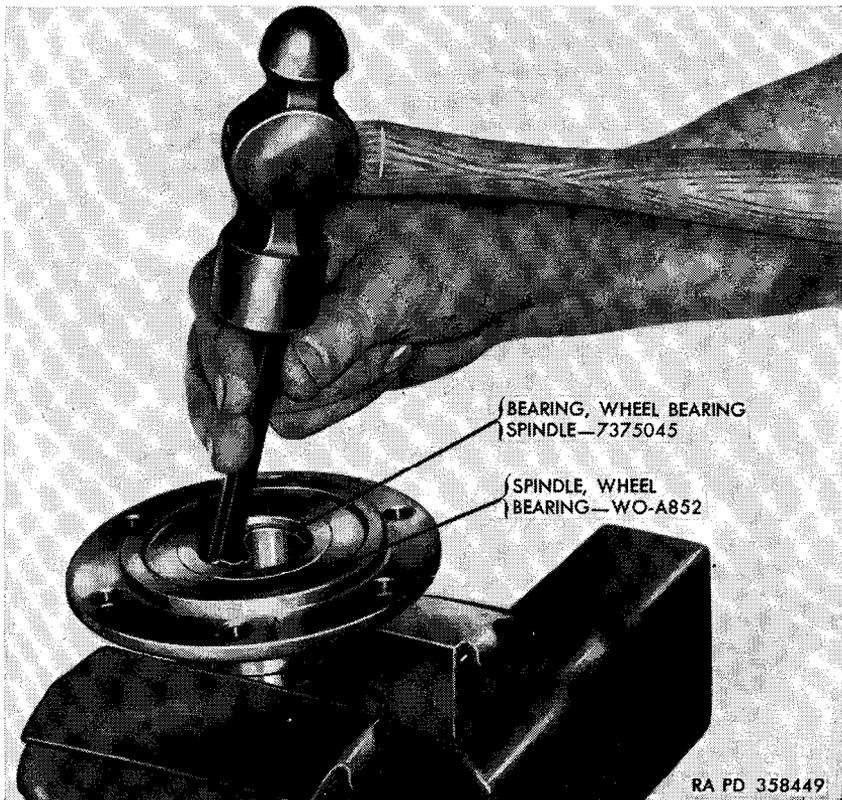
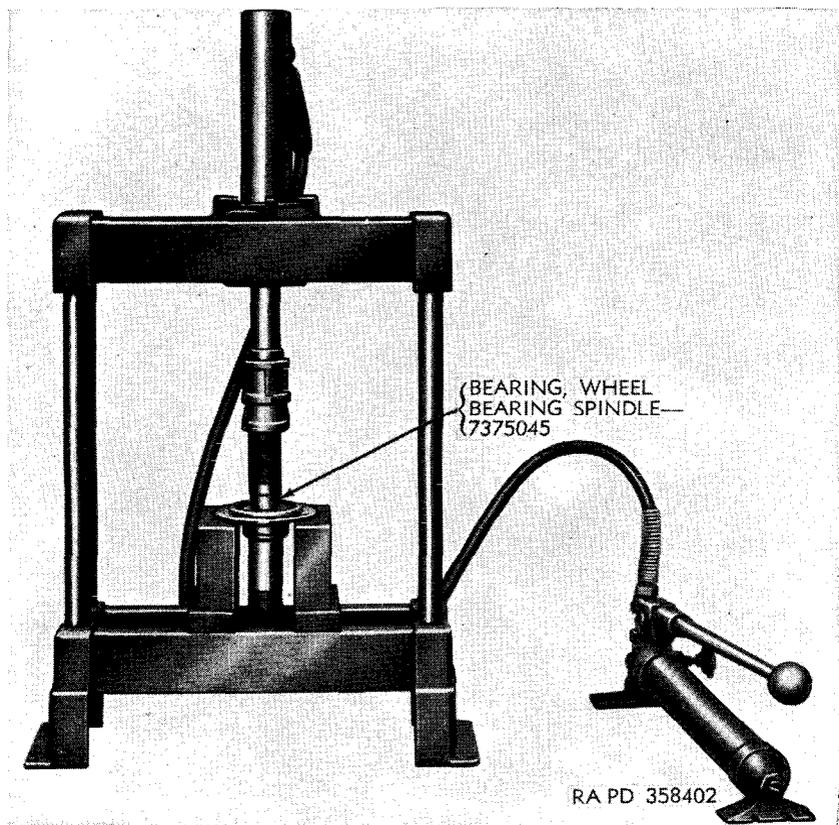

Figure 71. Removing wheel bearing spindle bearing.
Figure 72. Replacing wheel bearing spindle bearing.
b. *Wheel Bearing Spindle Bearing Replacement.* If inspection (par. 99b), indicates replacement of the wheel bearing spindle bearing (DD, fig. 57) is required, remove the old bearing with a center punch (fig. 71). To install a new bearing, use a suitable driver and press in place (fig. 72).